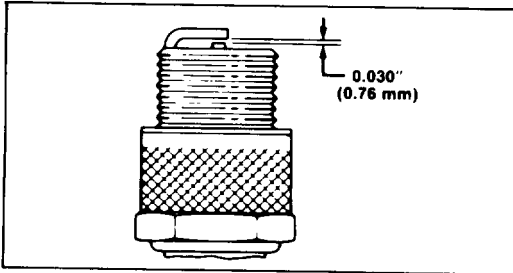

Figure 31
3. Set air gap between electrodes of new spark plug at 0.030 of an inch (0.76 mm), (Fig. 31). Next, install spark plug in cylinder head. Tighten plug to 15 ft-lb (20.4 N·m). If torque wrench is not used, tighten plug firmly.